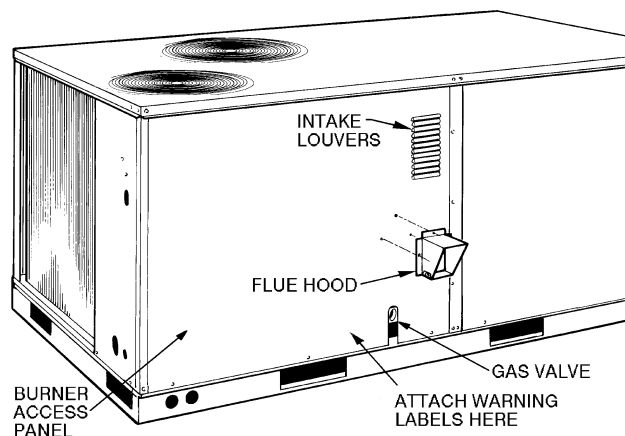

Fig. 1 — Typical Base Unit
Step 1 — Remove Burner Section From Base Unit (See Fig. 1 and 2)
8. Attach warning label to burner access panel. See Fig. 1 for location of warning label.